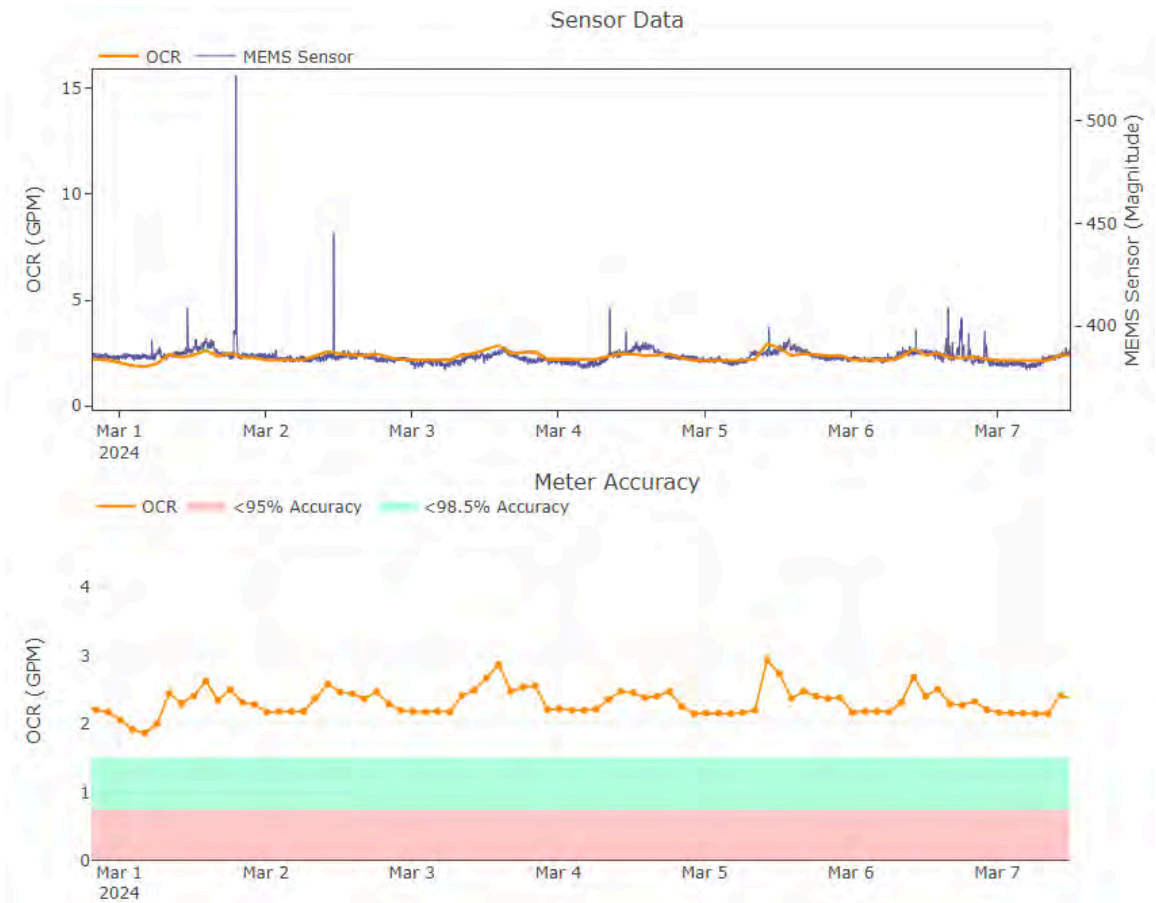

Figure 44 - Post repair 'No Problem Found' meter
- This compound meter (Figure 44), was previously identified as having an oversized meter error. Fullerton staff have completely replaced the Sensus meter with a new Sensus meter, and Olea’s MHA technology has identified this meter as ‘No Problem Found’.